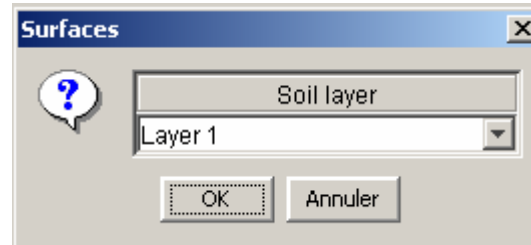

Figure 74: modification of the soil properties for a soil cluster, with the pop up menu
- Or click with the right mouse button in the soil cluster for which he wants to change the soil properties (choose "Edit" in the pop up menu): the list of available layers is displayed (Figure 74).